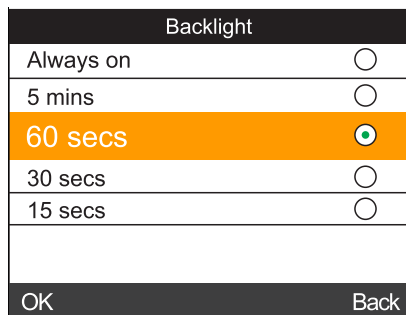

Figure 51 Backlight Time Setting Interface
g) **Screen backlight time** Select "Screen Backlight Time" in the "Function Settings" to enter the interface shown in Figure 51. This interface is used to set the time when the screen backlight is on when the instrument is idle, which is beneficial for saving the instrument's power consumption.